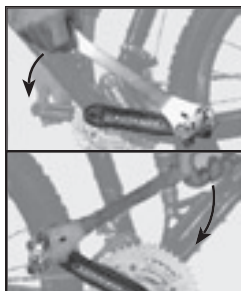

Figure 3- Tightening pedals
Every 3 months inspect your pedals. Tighten the pedals into the crank arms; turn the right pedal clockwise, but the left pedal counter-clockwise (Figure 3):
1. Turn the right pedal spindle counter-clockwise to remove the right pedal, the opposite direction of tightening (Figure 3).